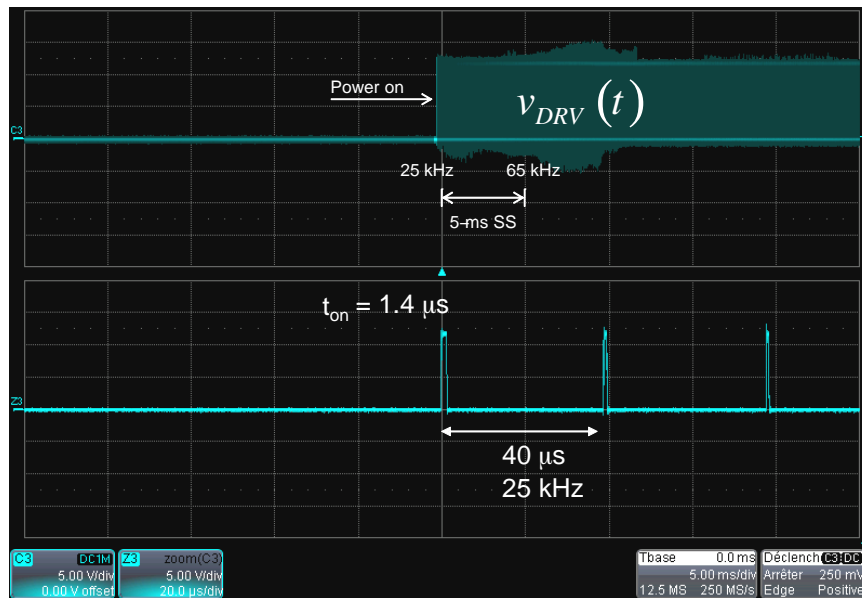

Figure 32. During the start–up sequence, both frequency and current setpoint are slowly raised for 5 ms
As illustrated in Figure 32, peak current and the switching frequency are gradually increased at start–up in a 5–ms soft–start (SS) sequence. Frequency starts from 25 kHz and hits 65 kHz (or 100 kHz) after 5 ms as feedback voltage is pushed to its maximum value. The 64–ms timer counts as V_{CS} is above 0.7 V. When the 5–ms SS sequence is over, the peak current is maximum. During this sequence (V_{FB} is still pushed to the max, V_{out} is not on target), if V_{cc} accidentally touches UVLO, the part featuring the pre–short option immediately latches off. On the contrary, if everything goes well – the loop closes (V_{out} is on target) before V_{cc} touches UVLO and the 64–ms timer is reset. If an UVLO event occurs after a normal start–up sequence, it auto–recovers as it should. This smooth start–up mode helps reduce the stress on the output diode or in the synchronous MOSFET when power up occurs on heavy load. As this mode is also activated in auto–recovery protection (for the selected option), it significantly reduces the stress on the various power components when the converter tries resuming operations. Figure 32 offers a typical drive waveform captured during the power–on sequence.